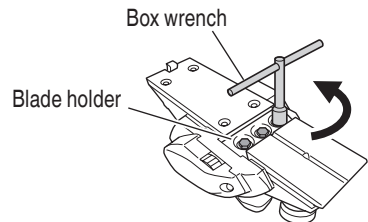

Fig. 7
(1) As shown in Fig. 7 use the accessory box wrench to withdraw the three bolts used to retain the cutter blade, and remove the cutter blade holder.